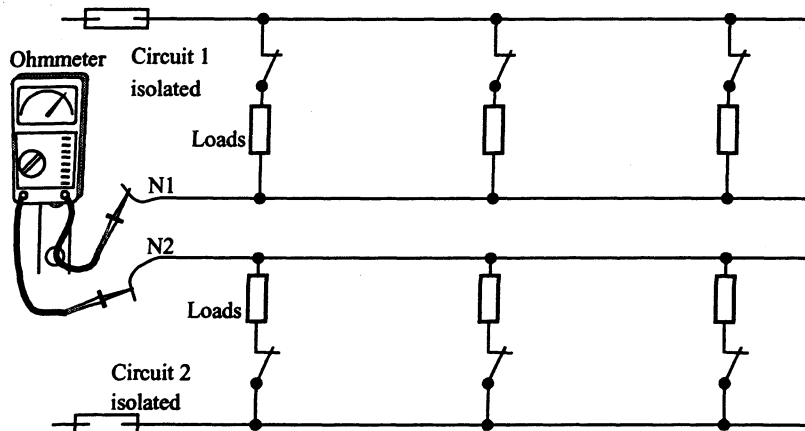

Figure 8.3 Interconnection DEAD testing - loads connected
1. Test for no continuity between neutral conductors as shown in Figure 8.3.